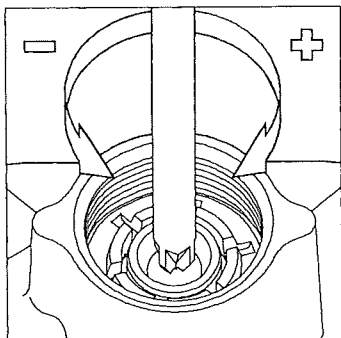

Fig. 7.
- 8) If UPSS fitted, insert a pozidriv screw driver (No.2 point) into UPSS adjusting screw in bottom spring holder. See Fig. 7.
22) Slowly turn UPSS adjusting screw clockwise (+) until UPSS device trips off. See Fig. 7.